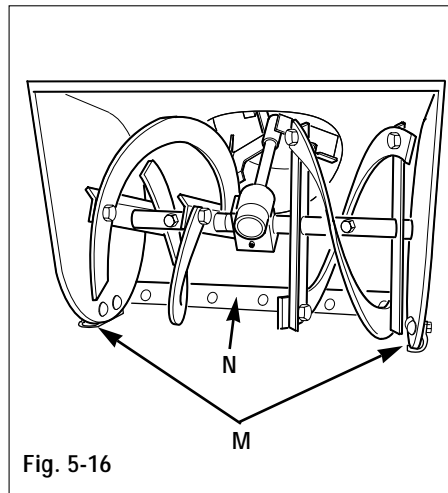

Fig. 5-16
1. The unit should be adjusted so the auger housing and the scraper blade (N, Fig. 5-16) are 1/8" above the surface to be cleared. If the unit is used to clear gravel or uneven surfaces, this adjustment should be increased so gravel or other foreign objects are not scooped into the auger.
- b. Loosen the hardware securing the skid shoes (M, Fig. 5-16).
- c. Adjust the skid shoes (M) until they are in the correct position to support the auger housing and the scraper blade (adjust both skid shoes the same to prevent uneven snow removal).
- d. Tighten the hardware to lock the skid shoes (M) into the proper position.
2. The scraper blade (N, Fig. 5-16) can also be adjusted. Adjust the scraper blade (N) at the carriage bolts. Adjust the bottom edge of the scraper blade so it is parallel with the bottom edge of the auger.